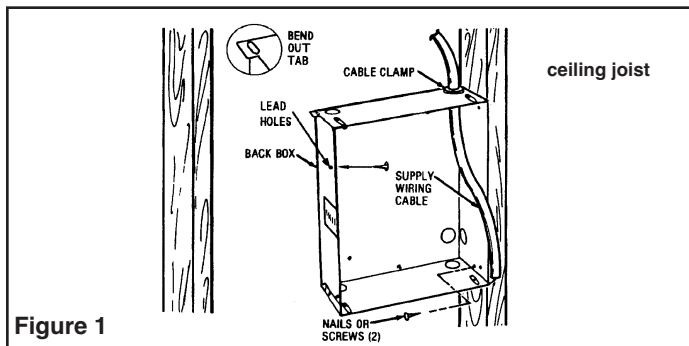

Figure 1
1. Determine which side of the back box is to be mounted against a joist and bend the tabs at the rear corners out 90 degrees so that the back box will be square with the joist after installation. (See Figure 1).
3. Position back box against side of joist and secure using nails or screws as shown in Figure 1.
NOTE: Lead holes for a #8 sheet metal screw have been provided in the sides of the back box. After the finished wall or ceiling has been put up, drive a # 8(m4) sheet metal screw (recommended 1") through the side of the box not mounted to the joist. This will prevent the back box from pulling out when installing the heater assembly. (See Figure 1)